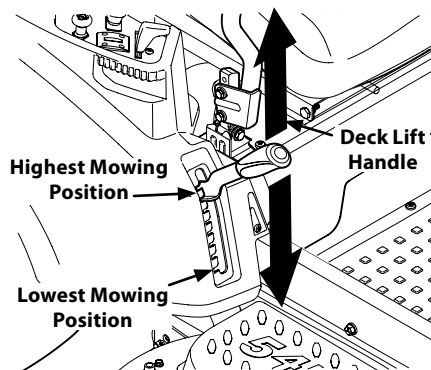

Figure 4-13
- Using the deck lift handle, raise the deck to the position that provides the most horizontal run of the belt between the deck idler pulleys and the PTO pulley on the bottom of the engine. See Figure 4-13.
- Lower the deck into the lowest mowing position using the deck lift handle. See Figure 4-13.
- e. Lower the deck into the lowest mowing position using the deck lift handle. See Figure 4-13.
11. Place the deck lift handle into the highest mowing position and slide the deck out from beneath the tractor. See Figure 4-13.
1. Place the deck lift handle in the highest mowing position. See Figure 4-13.